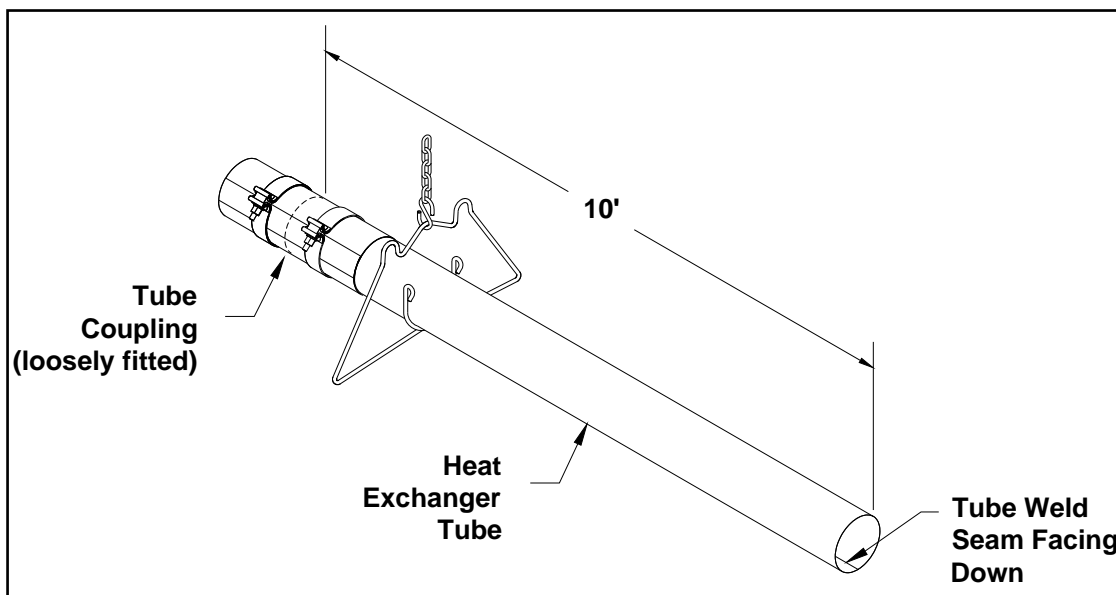

Figure 8: Installation of Heat Exchanger Tube and Coupling
- For all remaining tubes, fit the end of the tube with a coupling (Figure 8), (the coupling should be loose).